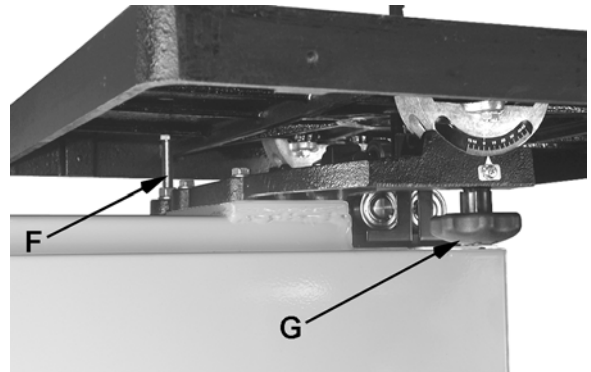

Figure 14
2. Loosen the lock knobs (G, Fig. 14).
Note: Table stop bolt (F, Fig. 14) must be removed to tilt table to the left.